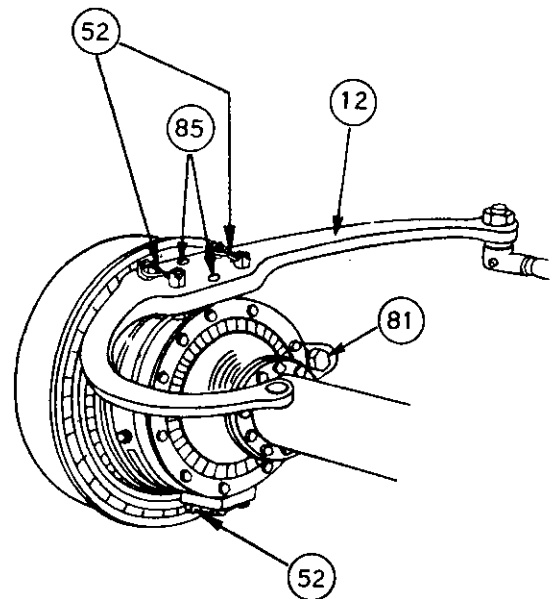

FIG 12 - RIGHT HAND FRONT WHEEL
- c. Remove the locking wires from the slotted nuts to the top and bottom of the tracta housing outer (fig 12).
- d. Remove the four slotted nuts securing the steering arm. The steering arm is then removed, using two set screws (3/8 UNC x 2 inches long) in the extractor holes provided (fig 12).
j. Tighten the top four slotted nuts in stages to 90 lb ft torque, checking at each increment that the king pin bearings have not excessive preload. The correct preload is obtained using a spring balance on the steering arm. A force of 6 to 10 lb is required on the end of the track rod arm to turn the outer tracta housing. This is adjusted by adding or removing 0.005 inch shims from the stack. Note that the torque measurements with the spring balance are done *WITHOUT* the rubber oil seal and retaining rings assembled. After the preload is set correctly tighten the four slotted nuts to 90 lb ft torque and lock-wire in pairs (fig 12).